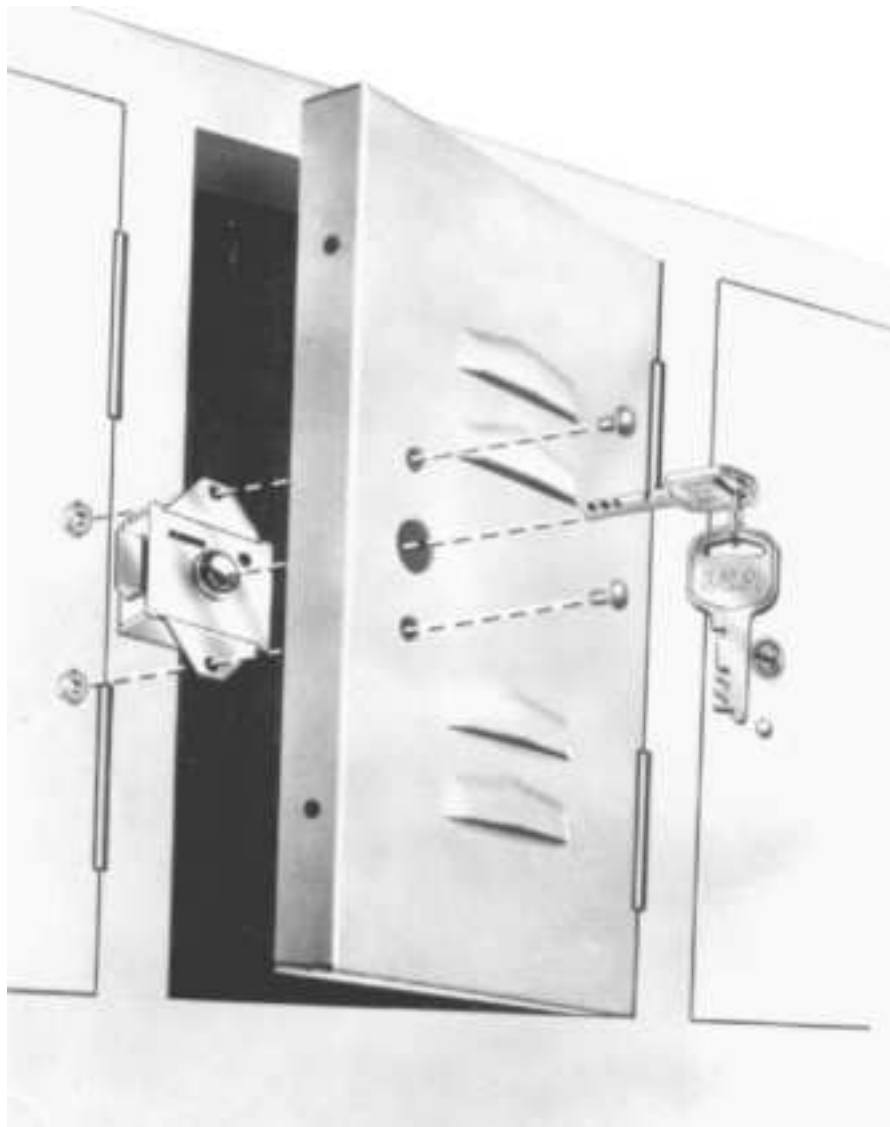

**Figure 5.7** Notice how a lever tumbler lock can be installed on a locker. (*Lock Corporation* )
***Series 4000 and 5000*** . The series 4000 and 5000 flat key built-in lever tumbler (Fig. 5.7 ) specifications are as follows: